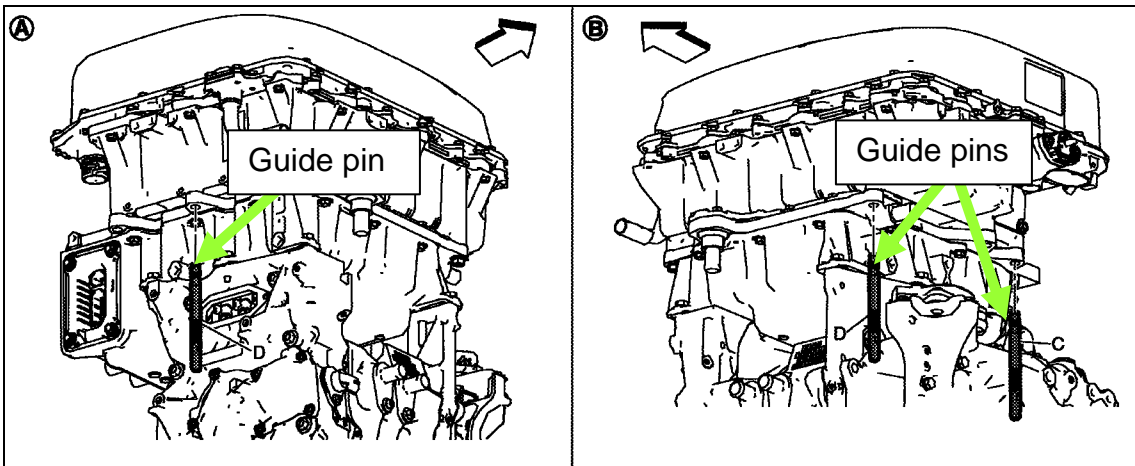
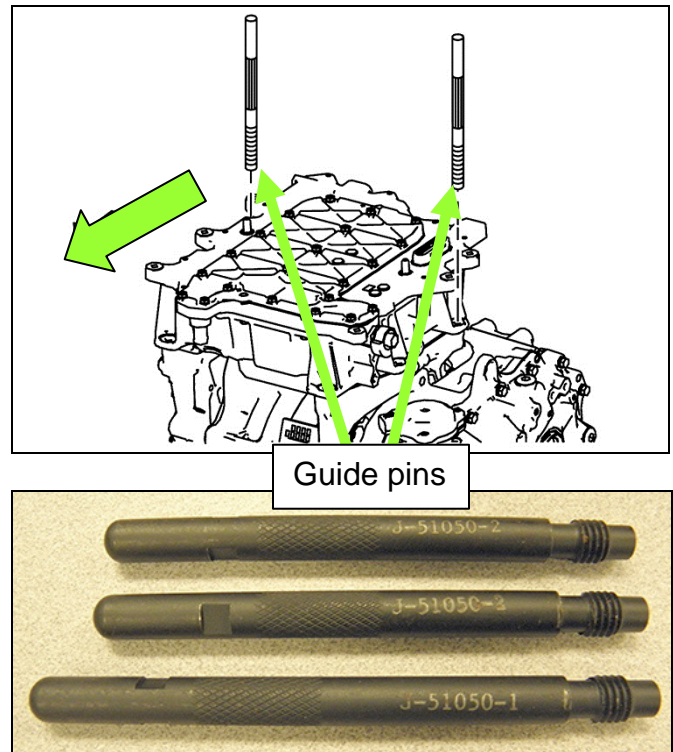

Figure 31
Figure 41
34. Insert guide pins (pins J-51050 found in kit J-51032) into the PDM mounting bolt holes shown in Figure 31 and in Figure 41 on page 21.